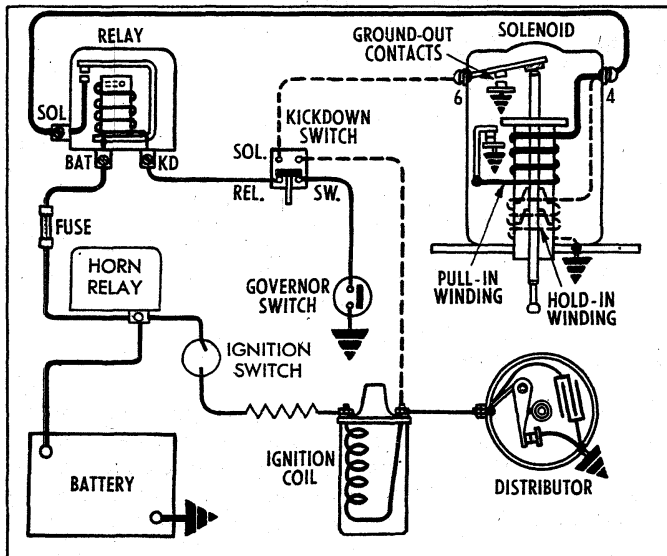

Fig. 4B - Overdrive Electrical Circuit Wiring Diagram
- a. With the engine running, connect a jumper lead between the No. 6 terminal of the solenoid and ground. Operate the kickdown switch by hand. This should stop the engine. If it does, the solenoid is probably defective and it should be checked for dirty ground-out contacts or other defects within the ground-out circuit of the solenoid (fig. 4B). Clean the contacts or replace the contact plate as required.